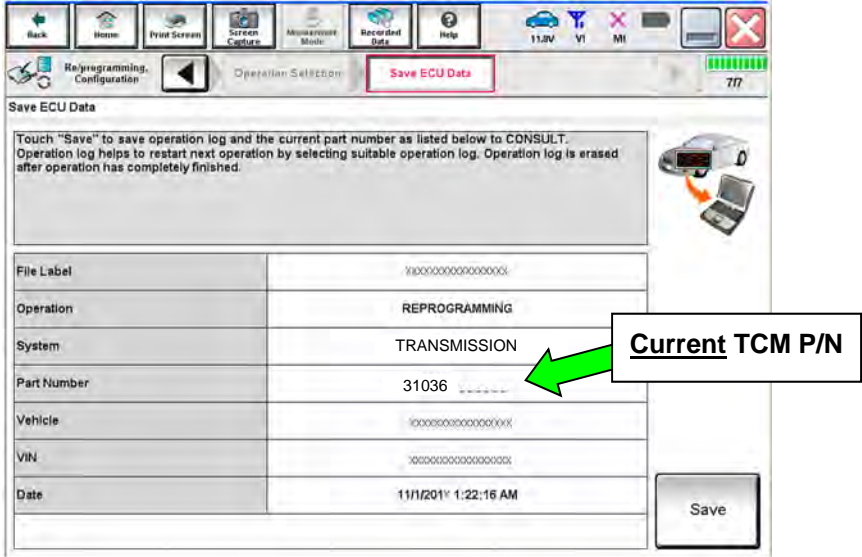

Figure 190
- 167. Follow the on-screen instructions and navigate the C-III plus to the screen shown in Figure 190.
- 168. When you get to the screen shown in Figure 190, confirm reprogramming applies as follows.